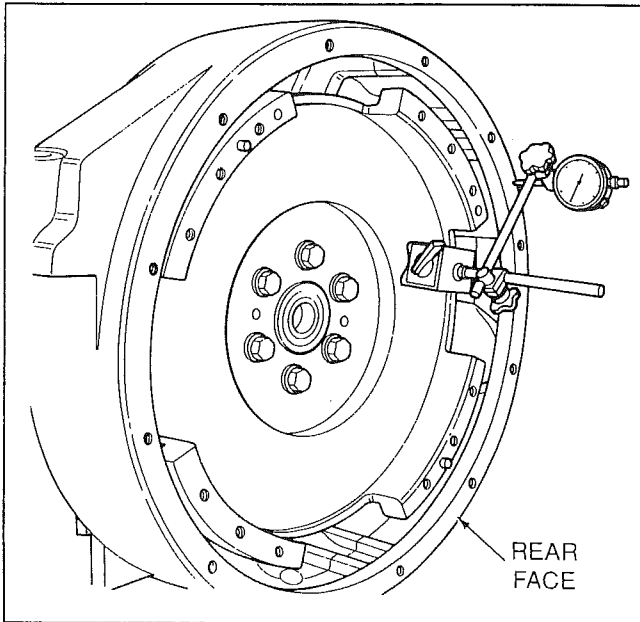

Figure 9-12. Checking Flywheel Housing Rear Face Axial Runout
3. Measure the rear face **axial runout** by positioning the dial indicator pointer against the flange face of the flywheel housing. Rotate the flywheel and record dimension at four places, each 90 degrees apart (Fig. 9-12). Force the flywheel back to take up crankshaft endplay prior to taking each measurement. Rotate the engine again and mark the high and low points as in Step 2. Typical maximum allowable limit is 0.008-inch (0.203 mm). Refer to the engine or vehicle manufacturer's specifications and recommended corrective actions if runout exceeds specification.